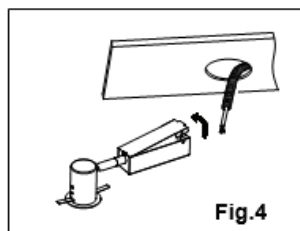

Fig.4
5. Pull out the junction box cover and connect fixture wires to building wires, insert each supply wire into appropriate junction box connector. Connect black fixture wire to hot, white fixture wire to neutral and green fixture wire to ground. When connect in series fixture, use a spread conduit connector (as Fig.4,5).